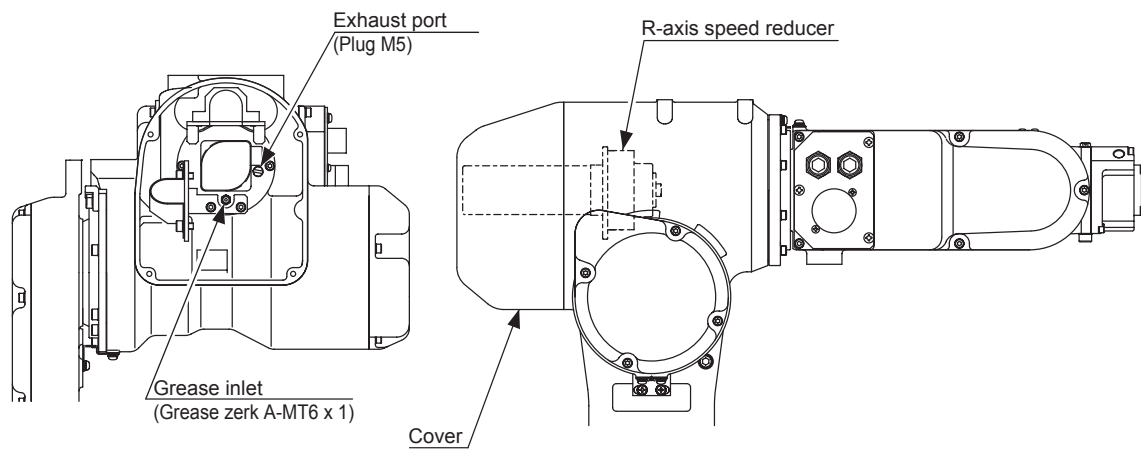

Fig. 26 R-Axis Speed Reducer Diagram
■ Grease Replenishment (Refer to " Fig. 26 R-Axis Speed Reducer Diagram ".)